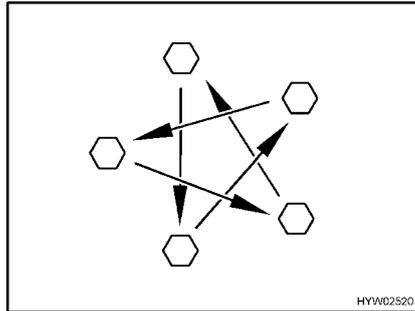

Fig. 303 Tighten the wheel nuts or wheel bolts cross-wise
- Check regularly that the wheel nuts or wheel bolts are firmly seated. Re-tighten the wheel nuts or wheel bolts of a changed wheel after 50 km (30 miles) (Fig. 303).
- When using new or newly painted rims, re-tighten the wheel nuts or wheel bolts once again after approx. 1,000 to 5,000 km (600 miles to 3,000 miles) (Fig. 303).
- ▷ Tighten the wheel nuts or wheel bolts cross-wise (Fig. 303).